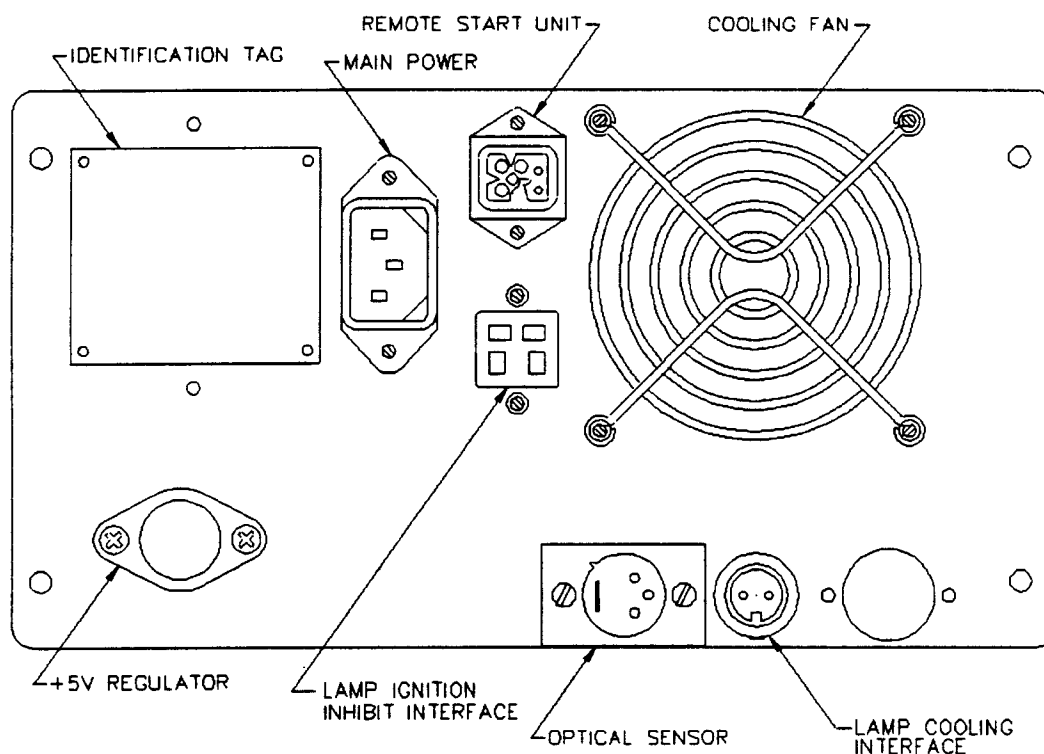

Figure 4-2 Rear Panel Connections - CIC 500
4.2 Rear Panel (Ref.: Figures 4-2 or 4-3)